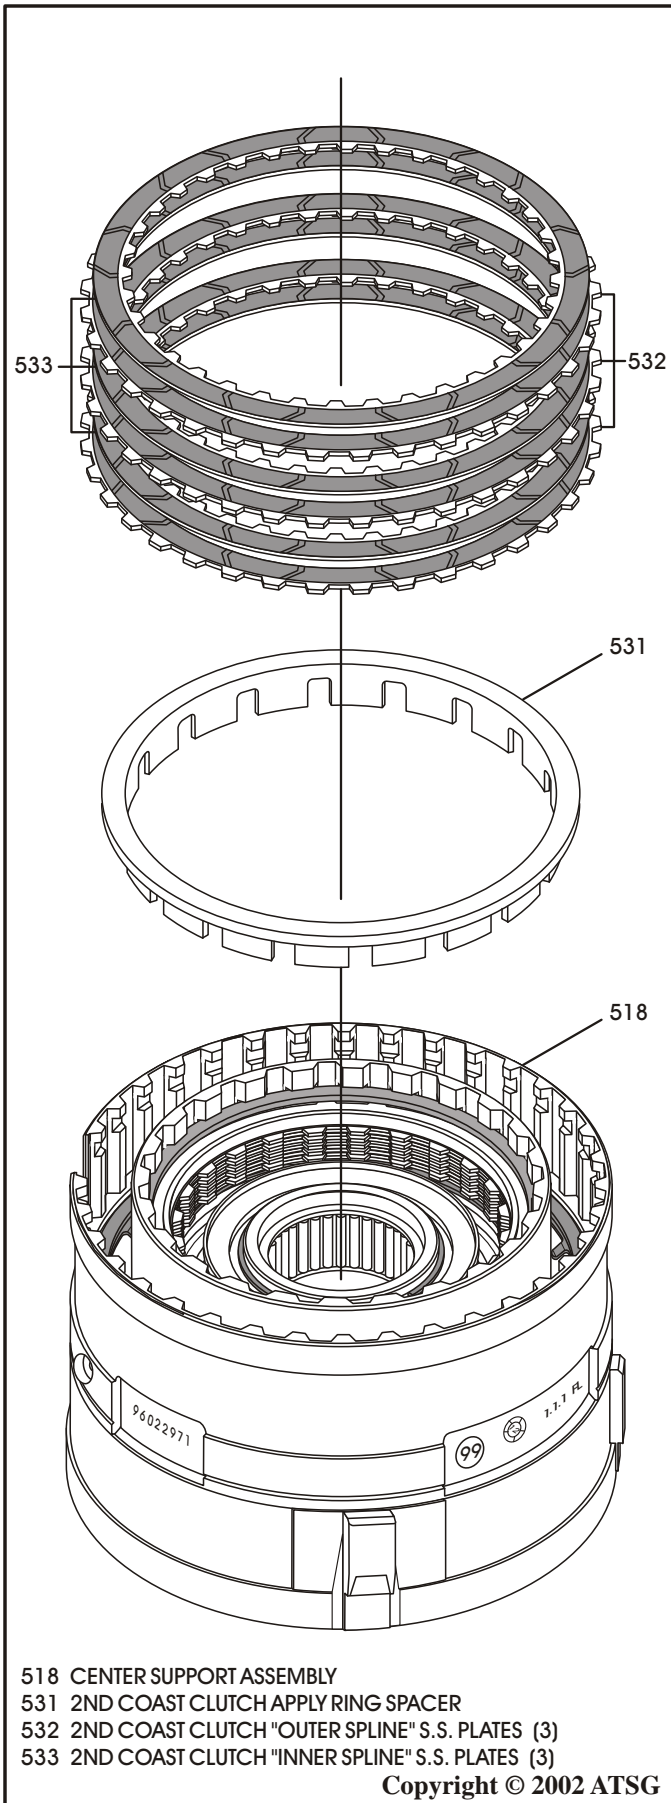

Figure 147
33. Install the 2nd coast clutch apply ring spacer, as shown in Figure 147, ensuring that slots are installed over return spring legs.
34. Install 2nd coast clutch "single sided" plates beginning with an outside spline plate first and alternating with inside spline plates until you have installed 3 of each (See Figure 147).
Note: Lined side must be installed facing up, as shown in Figure 147. Clutch plate amounts may vary by model. This set of clutch plates are not used at all in the "4L40-E" models.